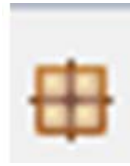

Figure 3-15: RTL Export Icon
9. Click the **RTL Export** icon on the GUI toolbar (Figure 3-15)